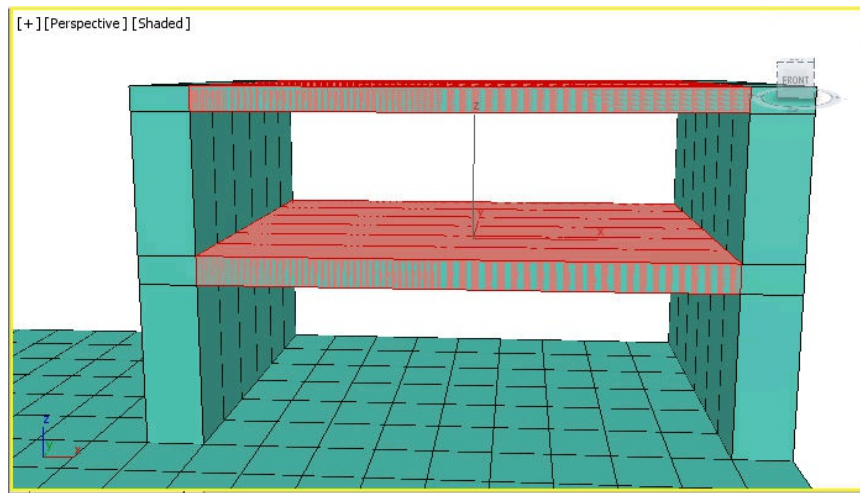

Figure 9-80 *Selected polygons connected by bridges*
10. Choose the **Bridge** tool from the **Polygons** panel; opposite polygons get connected by a bridge, as shown in Figure 9-80.